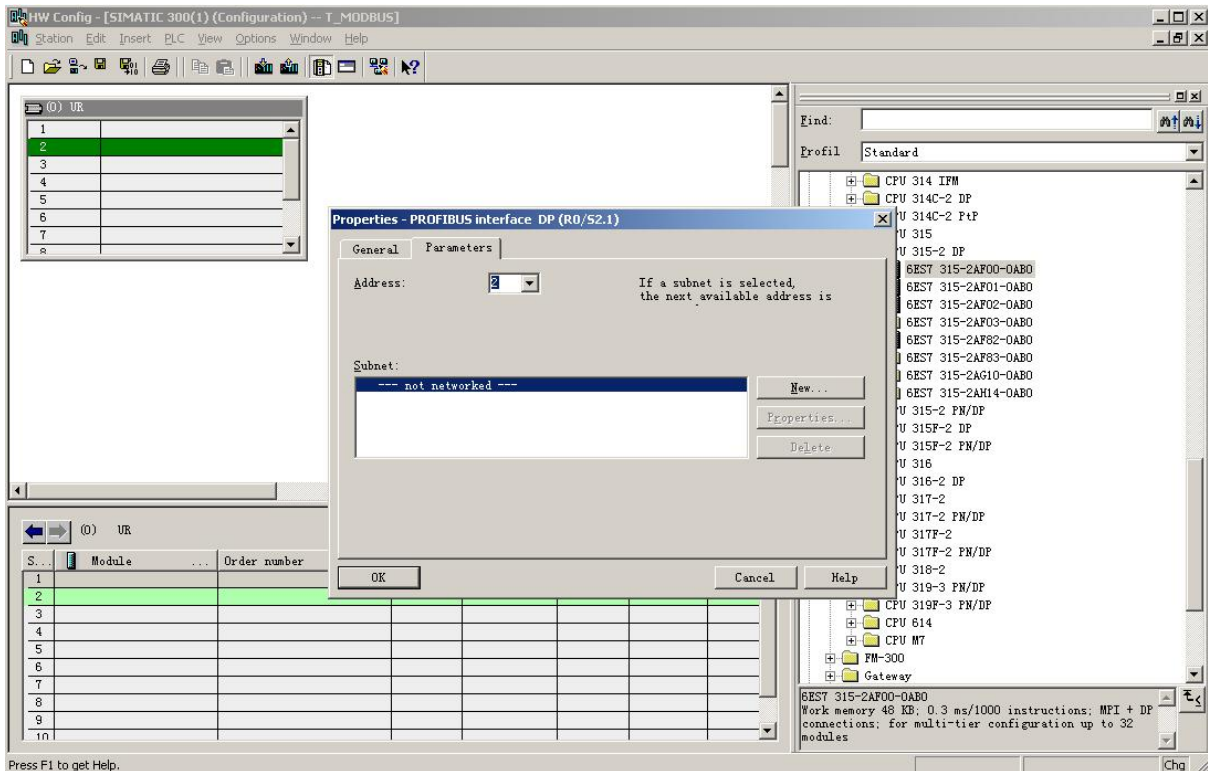

Figure 7
7. Set PLC rack, double click the "Hardware Catalog\SIMATIC 300\RACK-300\Rail", Figure 7: